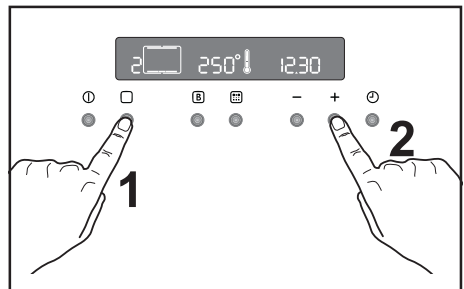

Fig. 2
2) press button  twice and select the "Conventional Cooking" function  (Fig. 2).